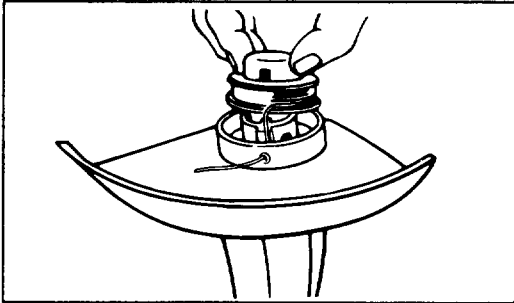

Figure 21
- D. The spool and the core are keyed. Be sure they are properly aligned when putting spool back on. Thread end of line through eyelet, place spool on keyed core, and push in place until you hear it click. Pull line free from groove in spool. Unwind no more than 3 inches from spool (Fig. 21).